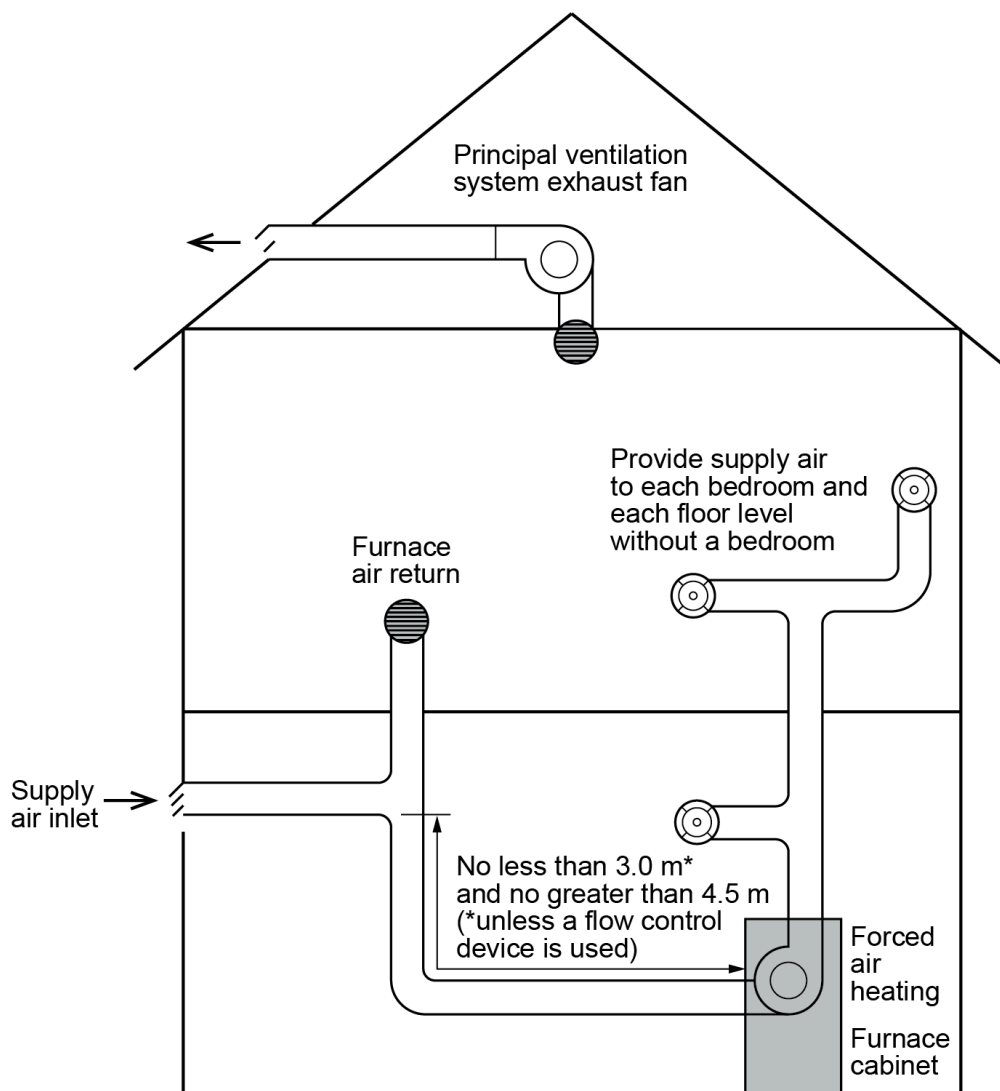

Figure 4 Simple balanced ventilation system. (Skilled Trades BC, 2021) Used with permission.
Some residential balanced systems rely upon an exhaust fan to create the building suction needed to draw in outside air. Proper sizing of the return air system and location of the outdoor air inlet connection are critical to ensure that the furnace air-circulating fan does not influence the amount of ventilation air being drawn into the building (Figure 4). If the proportion of cold outside to warm return air is too high, the resulting mixed-air temperature could lead to excessive condensation in the furnace heat exchanger and possible premature failure of the heat exchanger.
A residential mechanical ventilation system has a principal ventilation exhaust fan with an adequate air-flow rate designed to run continuously. The fan size and air-flow rate are based on the number of bedrooms and the floor area of the dwelling. The principal exhaust fan will create a slightly negative pressure (max negative 5 Pa) that draws ventilation air into the building through the outdoor air inlet (Figure 4).
- **Figures 4 and 5** have been modified from **Figure A-9.32.3.4.(2) and Figure A-9.32.3.4.(3) in** *The British Columbia Gazette* (2014), accessed from the BC Government BC Publications website. These materials contain content derived from information originally made available by the Province of British Columbia at: <http://www.bclaws.gov.bc.ca> (<http://www.bclaws.gov.bc.ca/>) and this information is being used in accordance with the King's Printer Licence – British Columbia available at: <https://www.bclaws.gov.bc.ca/standards/Licence.html> (<https://www.bclaws.gov.bc.ca/standards/Licence.html>). They have not, however, been produced in affiliation with, or with the endorsement of, the Province of British Columbia and **THESE MATERIALS ARE NOT AN OFFICIAL VERSION.**